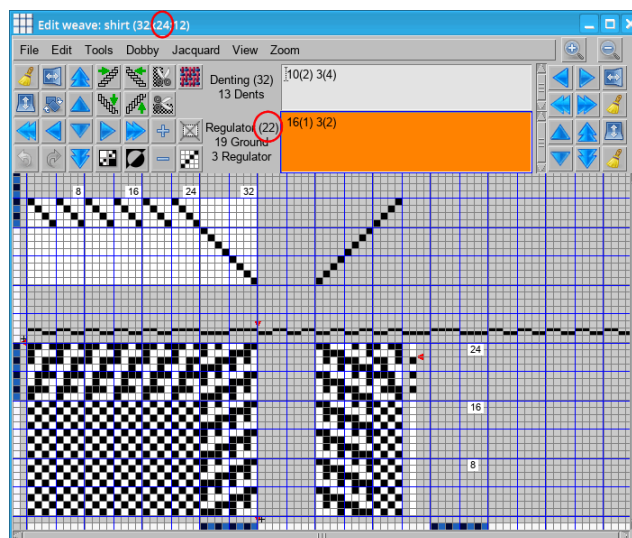

Figure 88: Repeat size of the regulator may be different than size of weave - red field warning
The repeat size of the regulator should not be bigger than the weave height; if it is longer than the weave height, then the weave height must be enlarged accordingly. The program gives you a warning if your regulator pattern does not divide the height of the weave – it draws the regulator field in red. If it divides, the regulator field is green. Figure 88 shows a weave, which has the repeat of 24 weft threads, but regulator repeat is 22 threads (sixteen plus six (16(1) 3(2))). The sizes are not the same, so the regulator field is displayed in red color.